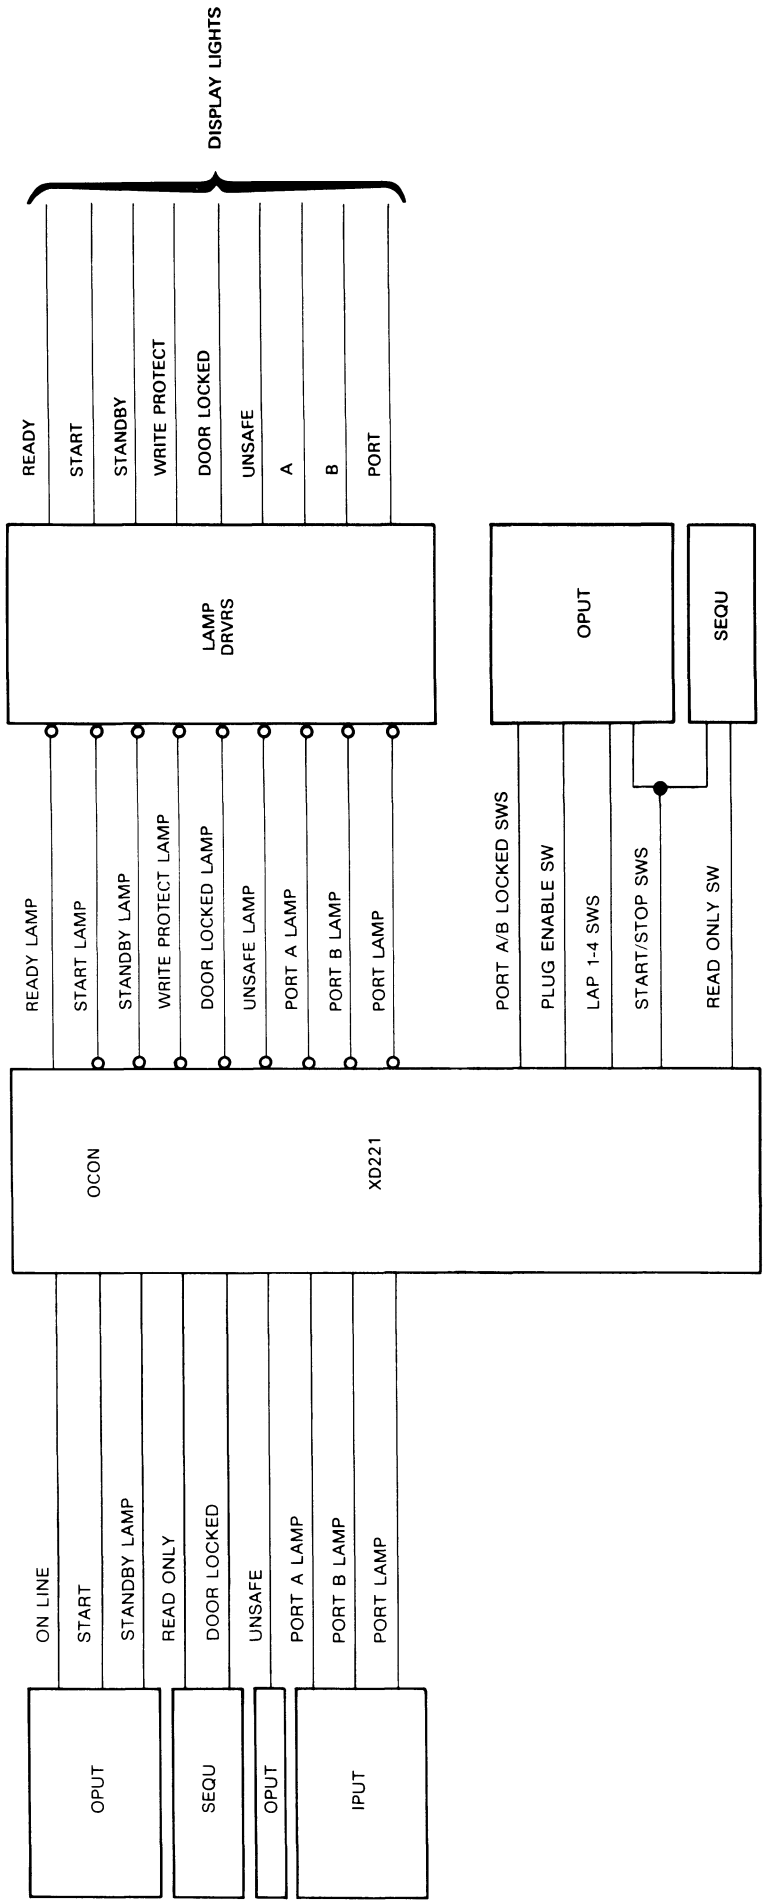

FIGURE 3-2. OPERATOR CONTROL AND LAMP MATRIX PCB
OCON circuitry and functions provided are described below, addressing the block diagram of OCON logic shown in Figure 3-2.
When the operator inserts a Logical Address Plug into its receptacle in the control panel, appropriate address switches (fixed by the plug's rear configuration) and an enable switch (located at the rear of the address switches) are engaged. Insertion generates ENABLE SW true and signals containing the binary decode of drive address (LAP 1,2,4). These signals are sent to the OPUT PCB, as shown in Figure 3-2.
- READY LAMP is generated by the On Line Latch on the OPUT PCB. The two signals READY LAMP and ON LINE are the same, as shown in Figure 3-2.
Logical address requirements are (refer to Figure 3-2):